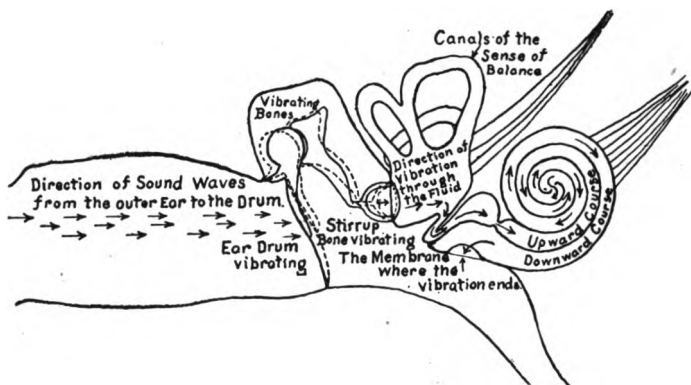

FIG. 168.—TRANSMISSION OF SOUND WAVES TO INNER EAR
**196. Human Ear.** In the human ear (Fig. 168) is found the most perfect receiver of sound waves. It is through this that we are able to hear the many noises and musical sounds about us. Without it the sound waves would exist, but there would be no sensation of sound. This answers that question so often brought up as to whether there can be sound where there is no ear to receive the waves.